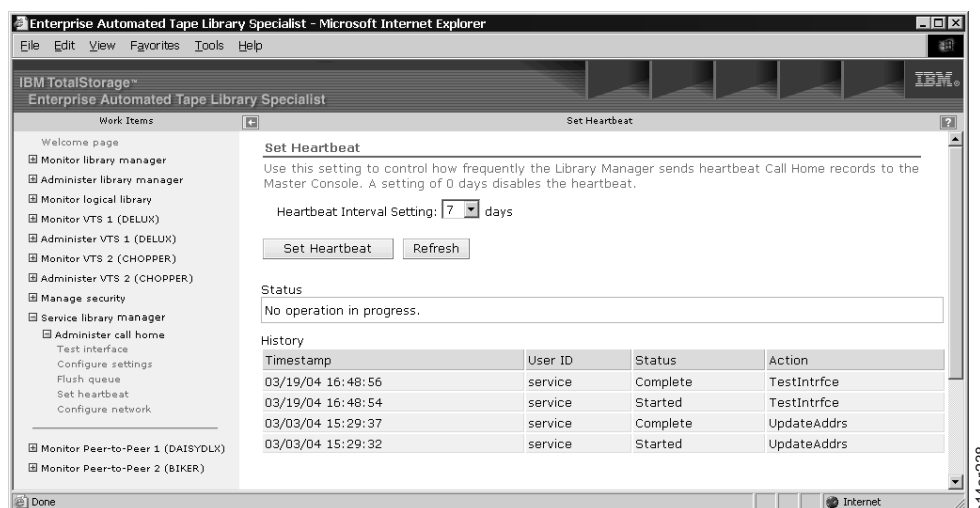

Figure 2-47. 3494 ATL Web Specialist - Set Heartbeat
1. From the “Administer call home” list on the Web Specialist screen (Figure 2-43 on page 2-30), click **Set Heartbeat** to see Figure 2-47. If you are prompted for a userid and password, use the default values of **service** for the userid and **service** for the password. These values can be changed by the 3494 ATL system administrator.